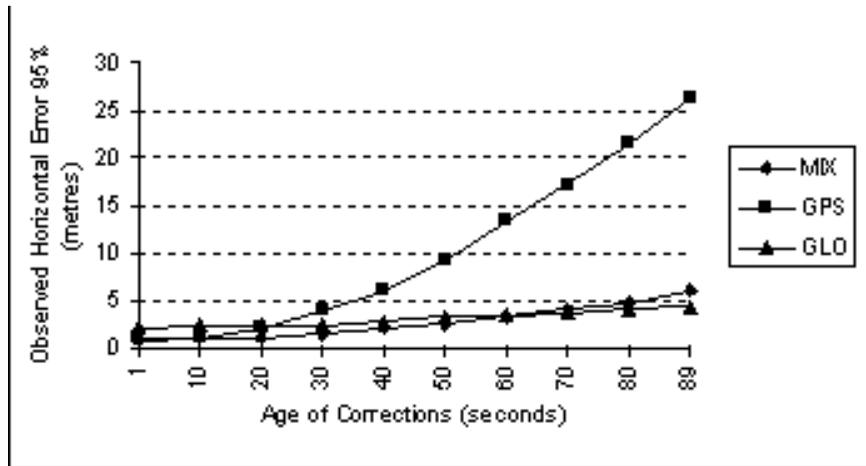

Figure A.1: GG Surveyor Code Differential Horizontal Position Decay
*Differential GPS accuracy is affected by the radio data rate. If the data rate is slow, SA causes errors to grow while the corrections are being transmitted. Figure A.1 shows actual 95% accuracy measured in tests with DGPS and DGLONASS.